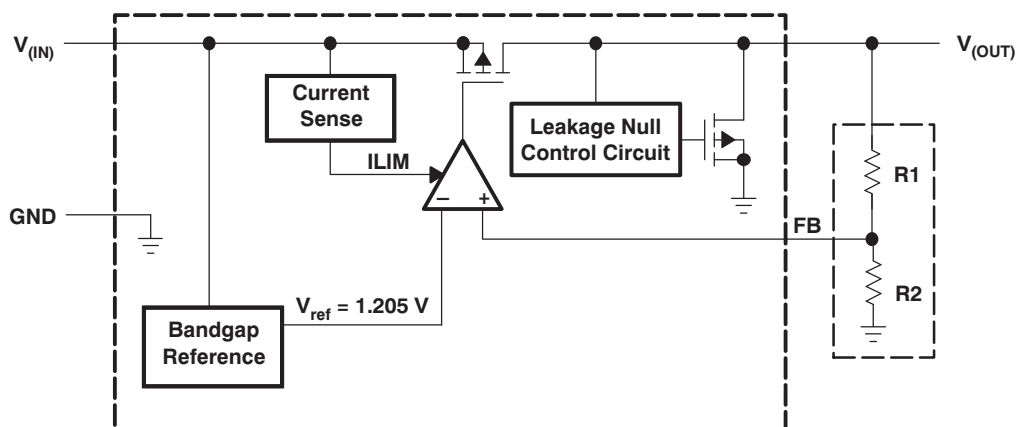

Figure 1. Functional Block Diagram—Adjustable Version
(1) Minimum $V_{IN} = V_{OUT} + V_{DO}$ or the value shown for *Input voltage* in this table, whichever is greater.
(2) See Figure 1. The TPS715xx family employs a leakage null control circuit. This circuit is active only if output current is less than pass FET leakage current. The circuit is typically active when output load is less than $5\text{ }\mu\text{A}$, V_{IN} is greater than 18 V , and die temperature is greater than $+100^{\circ}\text{C}$.